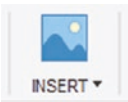

Figure 3-26. Click the “INSERT” drop-down menu
2. Go to the “INSERT” drop-down menu. See Figure 3-26.